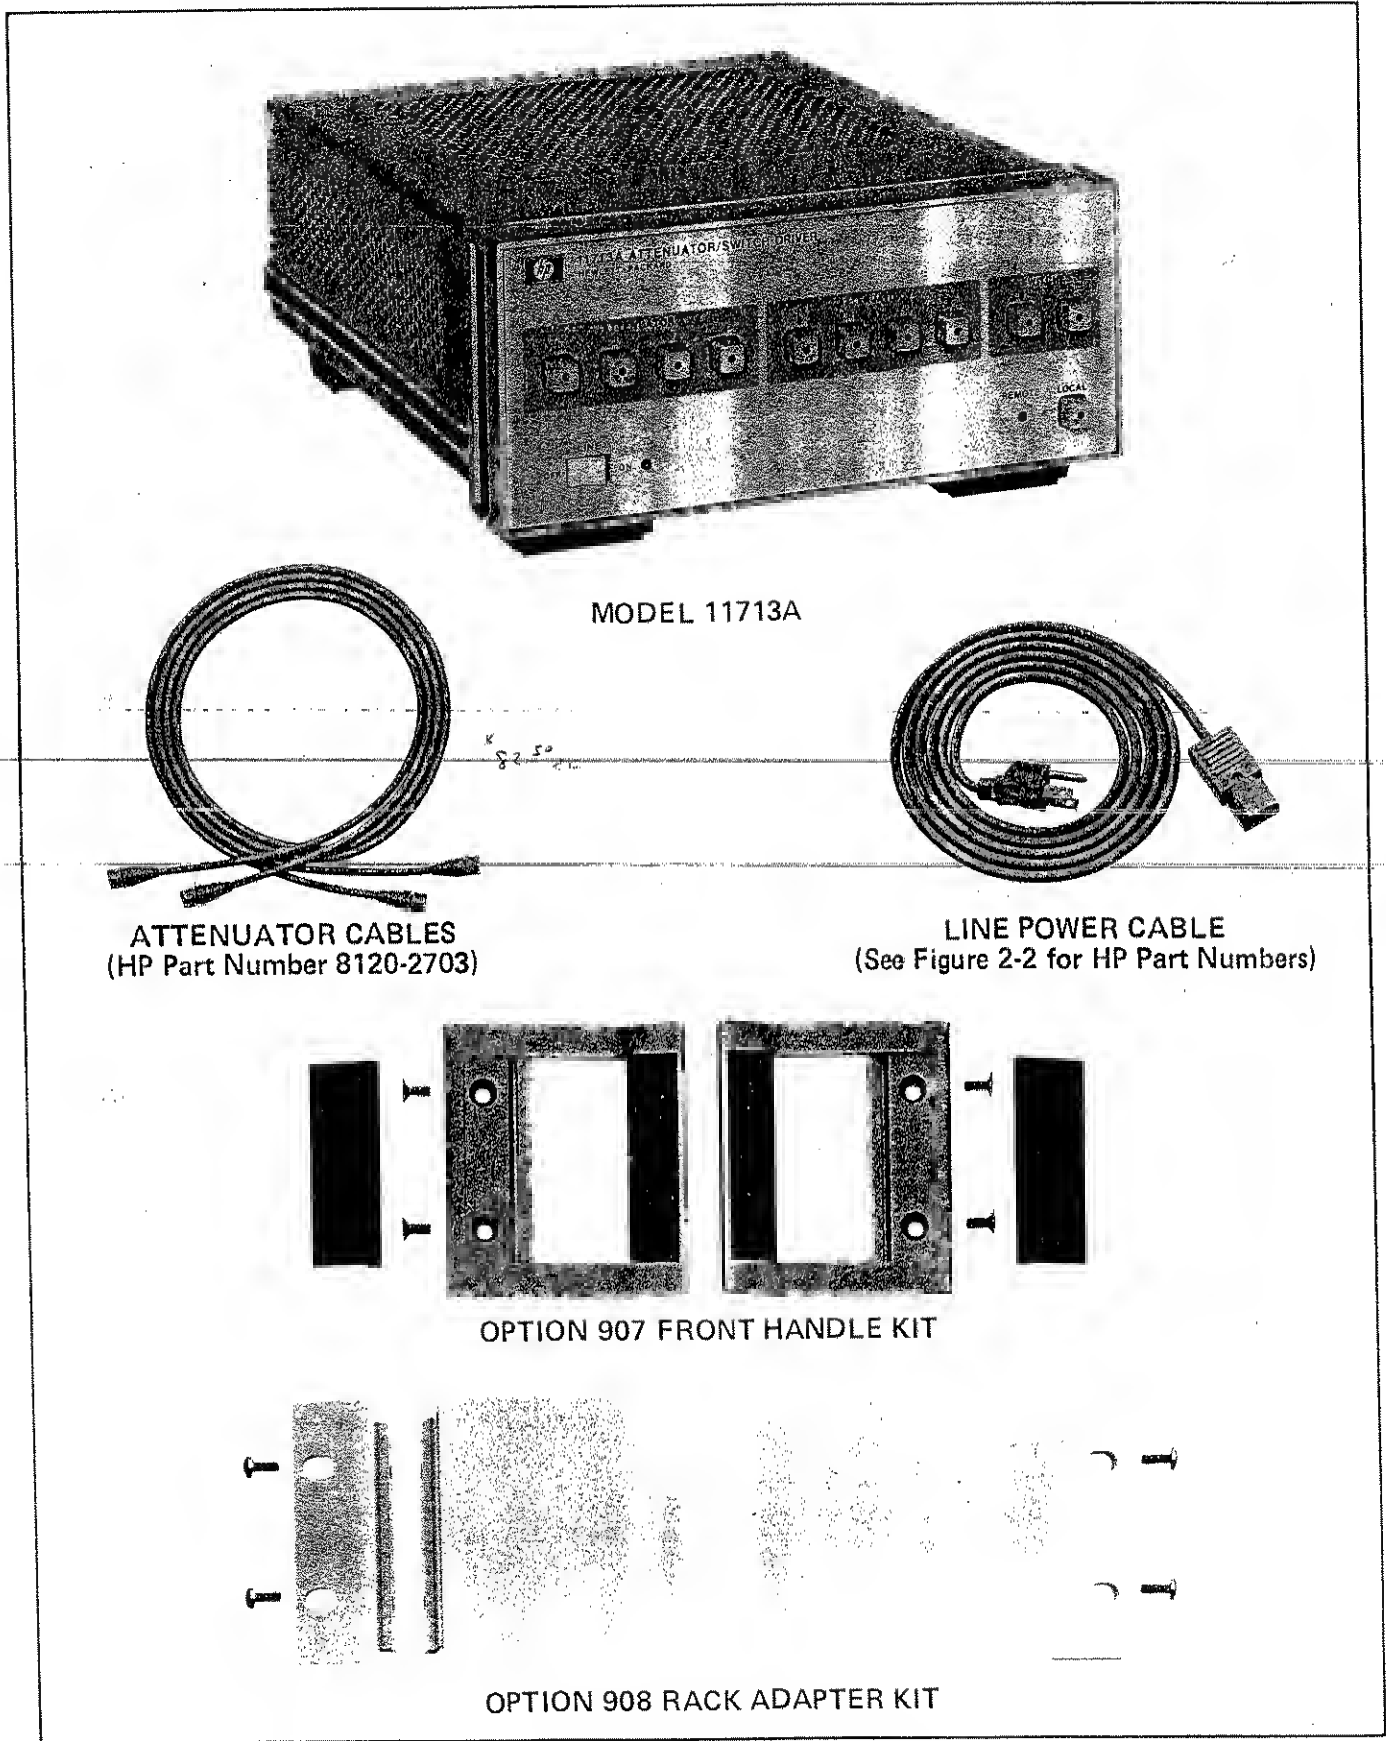

Figure 1-1. HP Model 11713A, Accessories Supplied, and Options 907 and 908
This operating and service manual contains information required to install, operate, test, and service the Hewlett-Packard 11713A. The Hewlett-Packard 11713A Attenuator/Switch Driver is designed to drive electromagnetic solenoid operated coaxial attenuators and RF coaxial switches. The 11713A will be referred to as the Driver throughout this manual. The Driver is an HP-IB\* compatible instrument that provides the current needed to control step attenuators or coaxial switches. Figure 1-1 shows the Driver and all supplied accessories.
**Option 907, Front Handle Kit.** This kit contains front panel handles that can be added to the Driver cabinet (Figure 1-1). Order HP Part No. 5061-9688.
**Option 908, Rack Adapter Kit.** This kit contains the flange and hardware for mounting the Driver in a standard rack of 48.3 cm (19 inches). Order HP Part No. 5061-9672 Rack Adapter Kit Half Module (Figure 1-1).
The accessories supplied with the Driver are shown in Figure 1-1. The power cable is selected at the factory according to the voltage available in the country of destination.
Inspect the shipping container for damage. If the shipping or cushioning material is damaged, it should be kept until the contents of the shipment has been checked for completeness and the instrument has been checked mechanically and electrically. The contents of the shipment should be as shown in Figure 1-1. A procedure for checking the electrical performance is given in Section IV. If the contents are incomplete, if there is mechanical damage or defect, or if the instrument does not pass the electrical performance test, notify the nearest Hewlett-Packard office. If the shipping container is damaged, or the cushioning material shows signs of stress, notify the carrier as well as the Hewlett-Packard office. Keep the shipping material for the carrier's inspection.